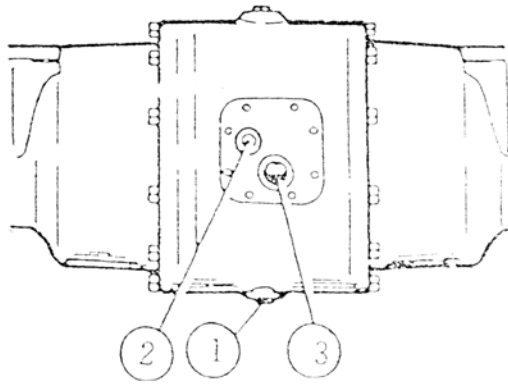
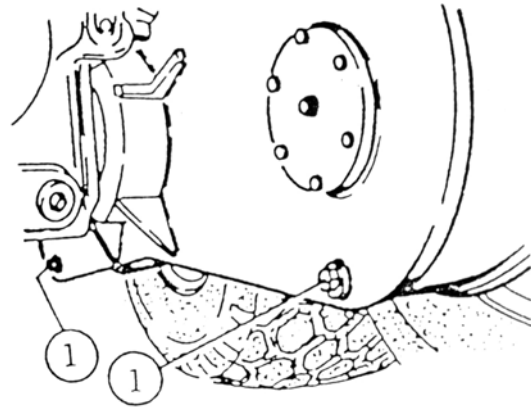

Fig.31
Fig.32
1. Remove drain plug (Fig.31/1) and drain oil into a container. To assist draining, Unscrew the opening (Fig. 32/2). Close it only if oil is drained off.
2. Clean drain plug (Fig.31/1) and use a new sealing ring. Refit and retighten.
3. Fill up fresh oil at the filter opening (Fig.31/2) of axles until the middle of the sight glass (Fig. 31/3) is reached.
1. Oil level must be in the middle of the sight glass (Fig. 31/3)
2. Fill up as required at. Filter opening (Fig. 31/2)
1. Unscrew the plug (Fig. 32/1) (2 plugs on each tandem box) and drain oil into a container. Close it only if oil is drained off.
2. Clean plugs (Fig.32/1) renew seating ring screw in and tighten the plugs.